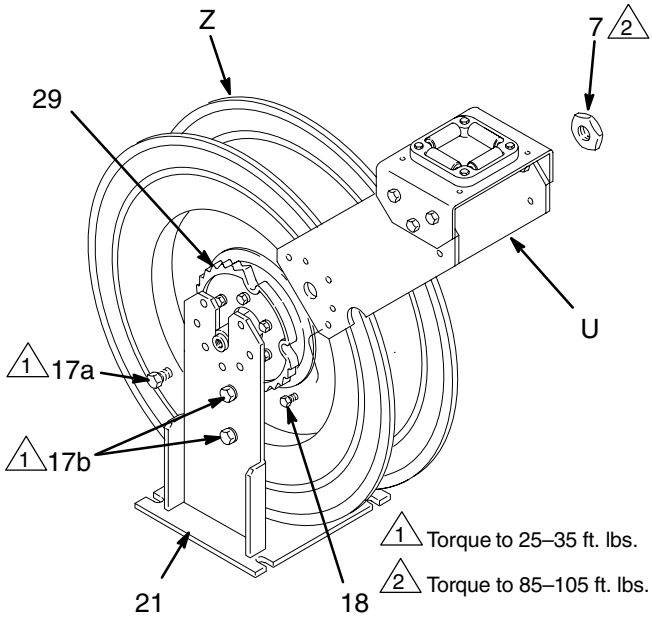

Fig. 13
4. To remove the roller arm assembly, remove screws (17a and 18) and nut (7), and lift the arm off the reel. See Fig. 13.